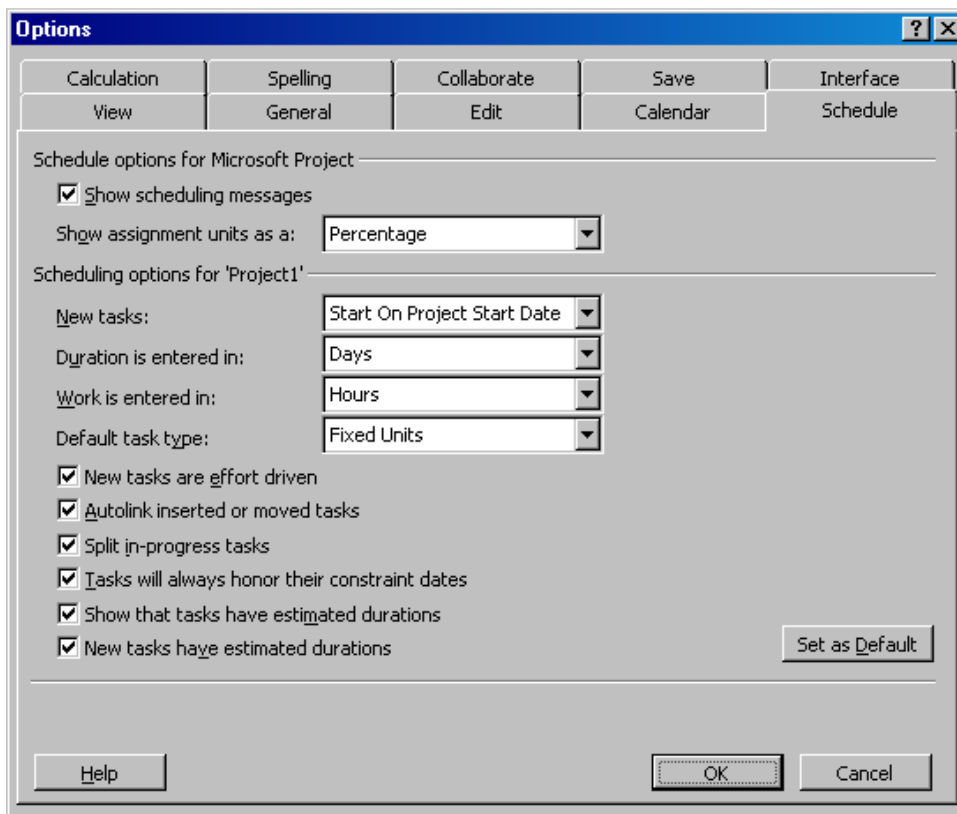

Figure 4 – Schedule Options Tab
1. Under the Tools / Options / Schedule Tab. Figure 4 shows this tab.